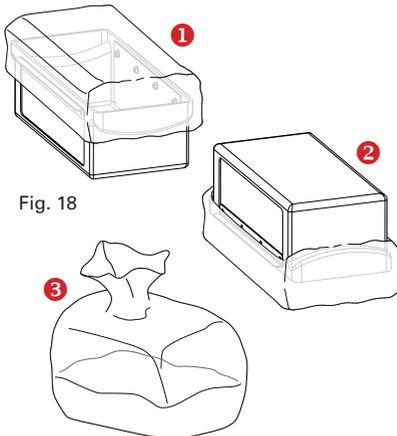

Fig. 18
① For a dust-free disposal use the enclosed dustbag and tighten the strap below the slides and handle bars (Fig.18)
② Now slowly turn over the dustbin and pour the dust into the dustbag. Therefore hold the dustbin with the dustbag. (Fig.18)
③ Release the strap and remove the dustbin from the dustbag. Close the dustbag immediately. (Fig.18)
- 2 after that you can pull the sealing plate with silencer out to the rear (fig. 18), at the same time pulling the protective ground contact off the silencer housing on the left.